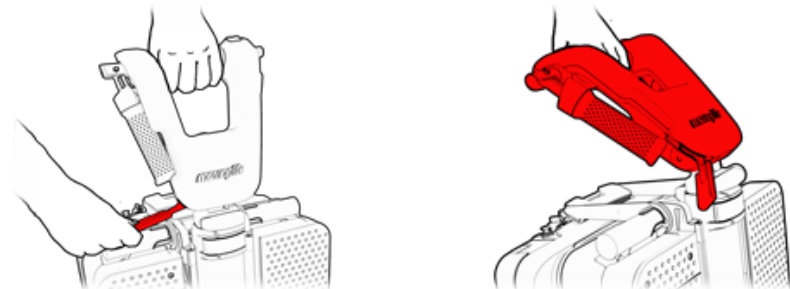

Figure 45
8. Release the adjustment lever of the handlebar and bring the handlebar to a horizontal position (see Figure 45, step 1). Then bring the lever back to the secure position (see Figure 45, step 2).